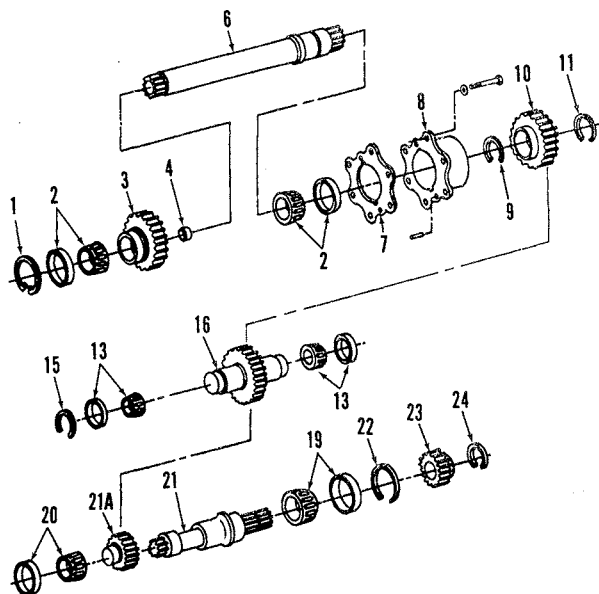
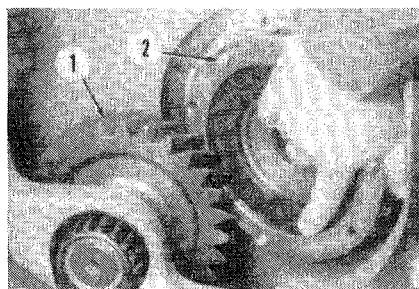

Fig. 178A—Exploded view of mechanical front-wheel drive power train used on 4650 and 4850 Power Shift models. Refer to Fig. 178 legend except for gear (21A).
Fig. 179—On Models 4650 and 4850, pto brake (2) must be removed to provide clearance for removal of idler gear (1).
153. CLUTCH IDLER SHAFT. The clutch idler shaft (21—Fig. 178A) and front gear (23) can be removed after removing MFWD clutch assembly as out-
154. IDLER GEAR. To remove MFWD idler gear (16—Fig. 178A), transmission must be separated from clutch housing as outlined in paragraph 134. Remove snap ring (15), then move idler gear rearward to remove rear bearing cup from clutch housing bore. Remove pto brake (2—Fig. 179) to provide clearance for removal of idler gear (1). Tilt idler gear to the side and remove from clutch housing.
155. DRIVER SHAFT. To remove MFWD driver shaft (6—Fig. 178A), transmission must be separated from clutch housing as outlined in paragraph 134. Remove snap ring (11), gear (10) and snap ring (9) from front of shaft. Unbolt and remove bearing retainer (8) with shims (7). Pull shaft from transmission case.